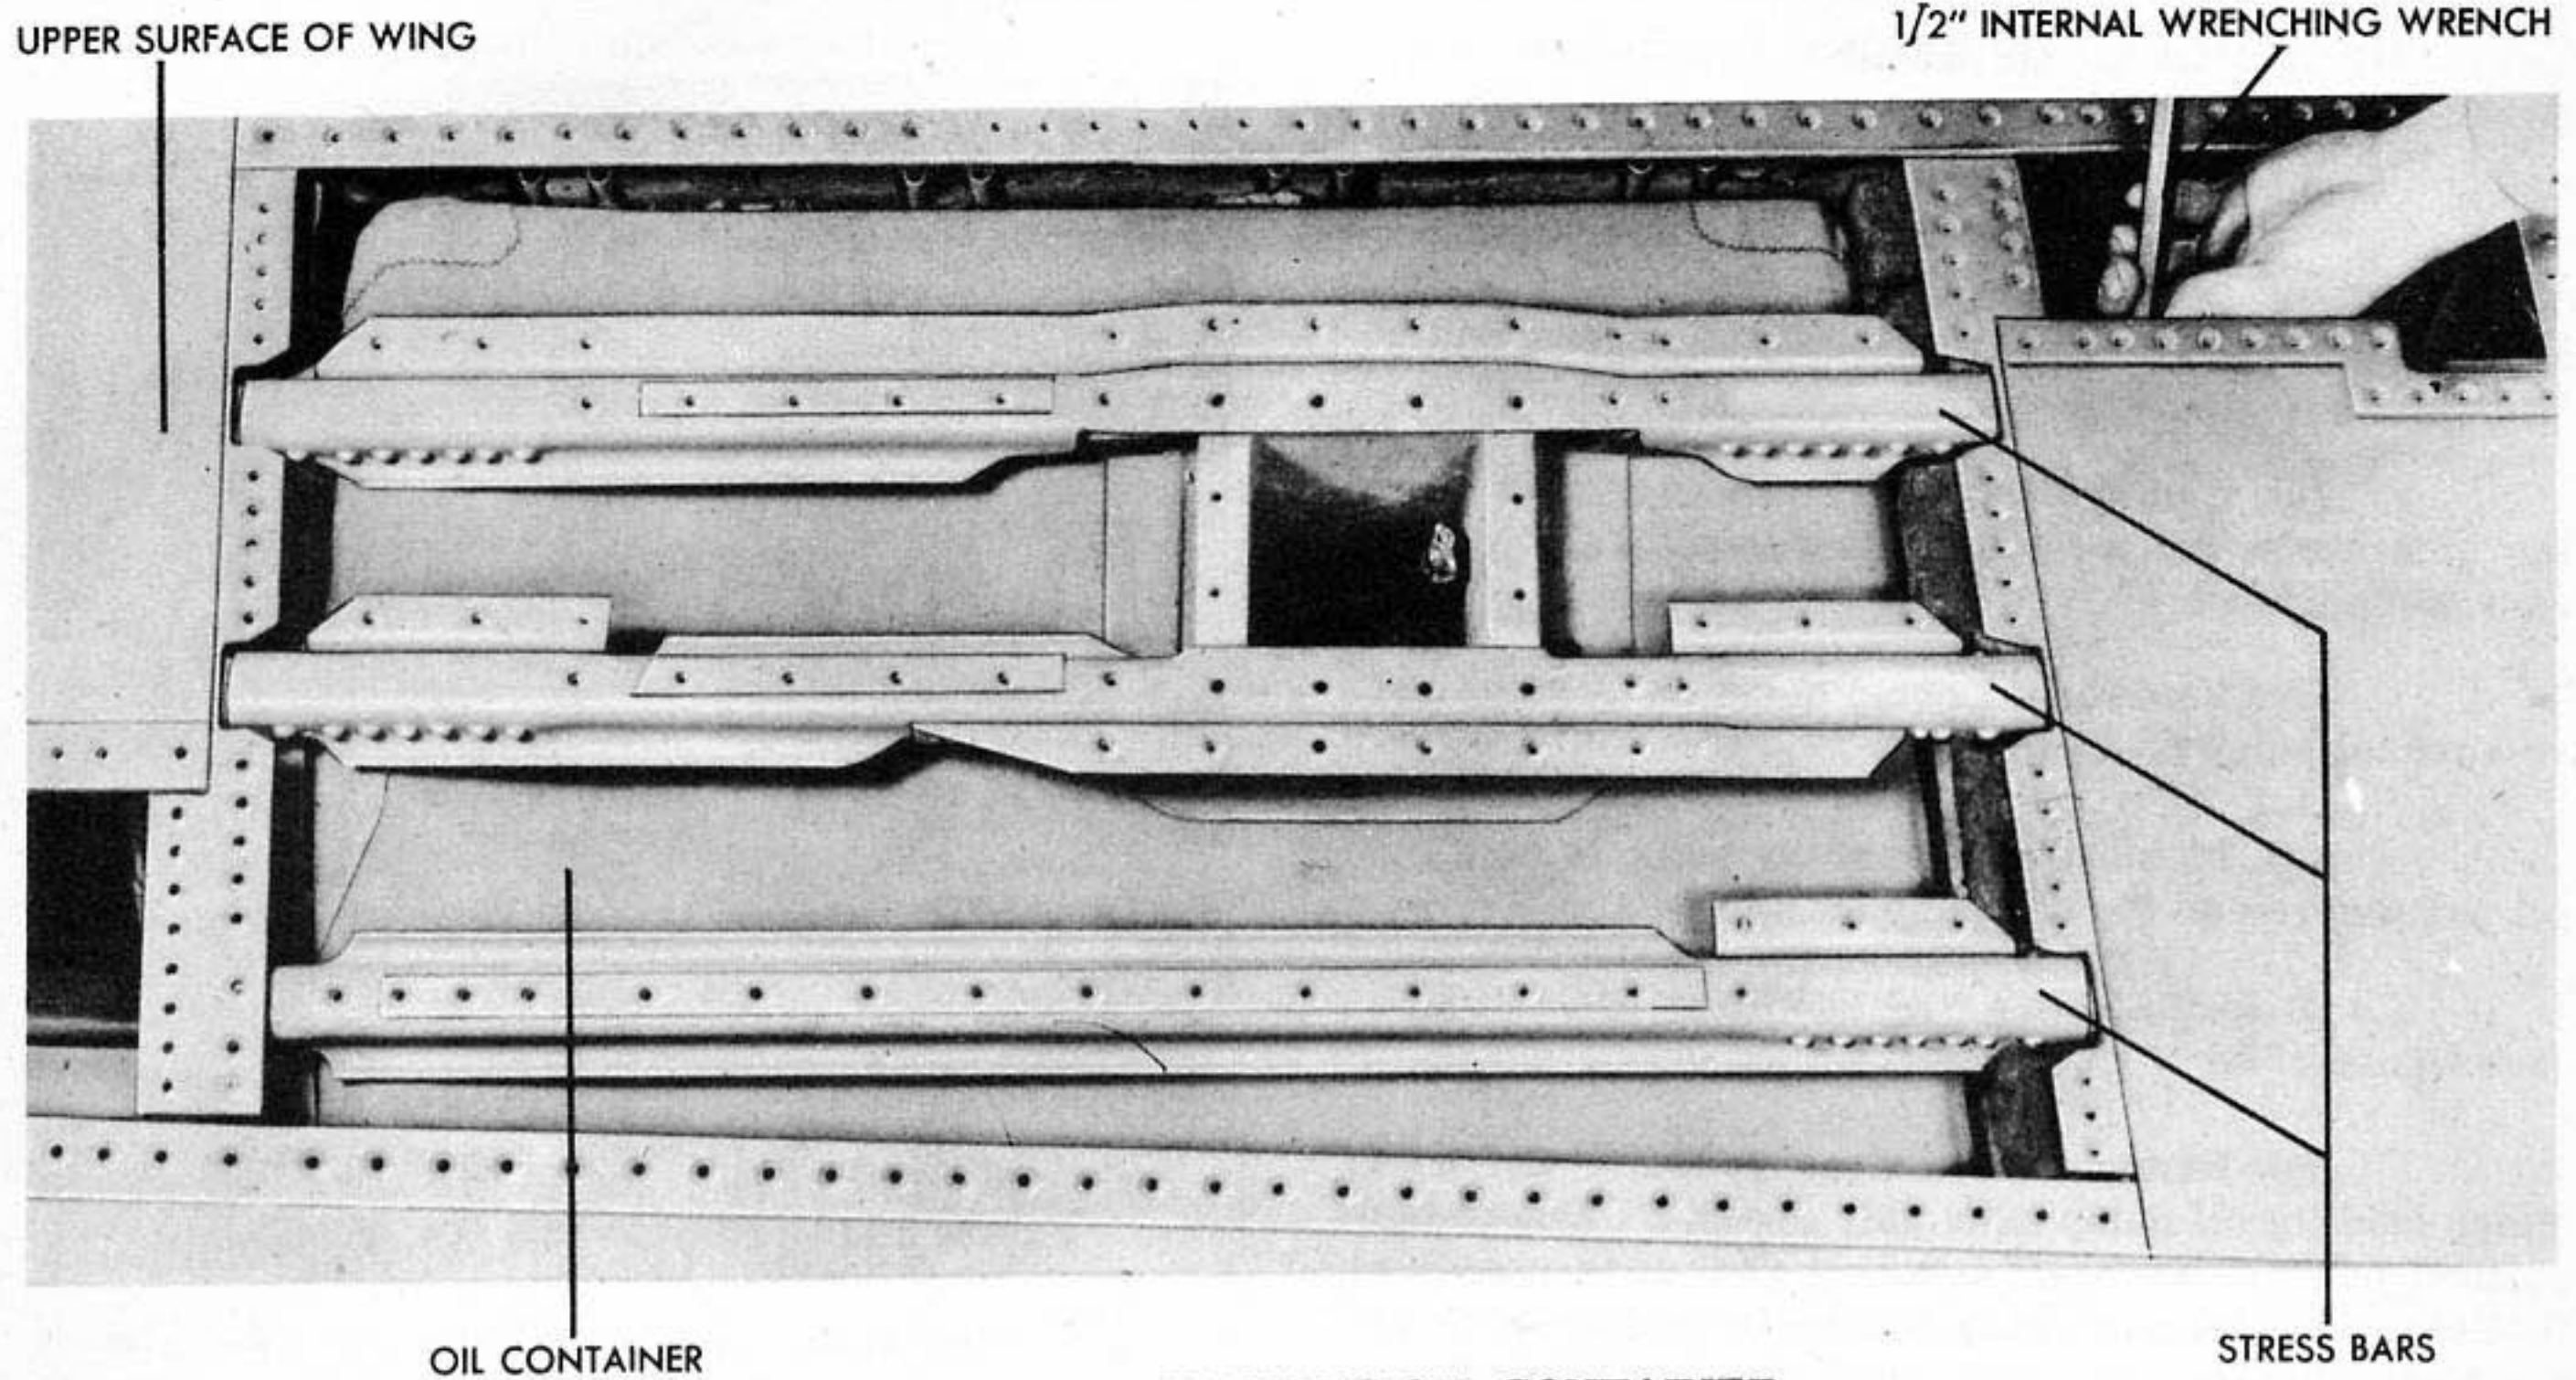

Figure 131 - REMOVING OIL CONTAINER
(9) **INSTALLATION OF OIL CONTAINERS.** (See figure 131.)